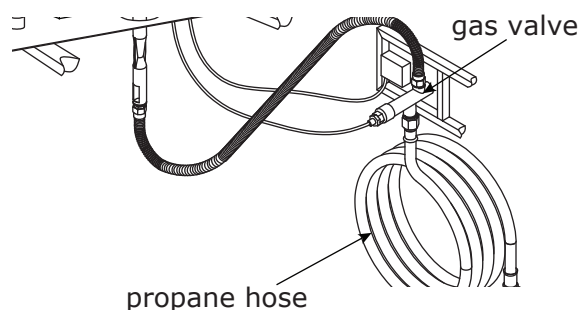

Figure 6
1. Disconnect the propane hose from the gas valve (see Figure 6).